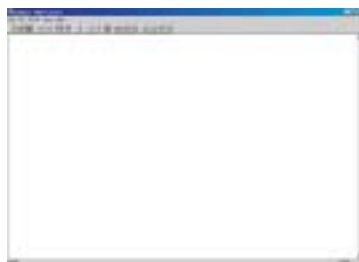

Fig. 12
- Click  icon as shown in Fig. 12 from the tool bar to bring up the Channels "Configuration Setup" windows as shown in Fig. 13.